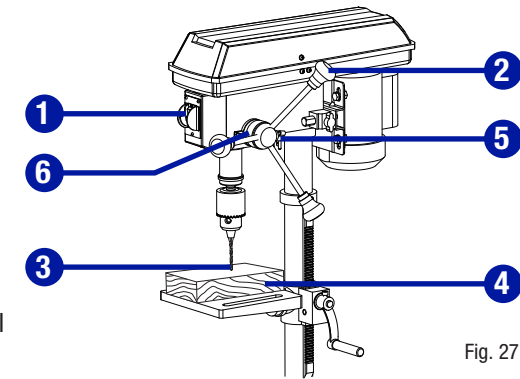

Fig. 27
**DEPTH SCALE METHOD (Fig. 27)**
- With the switch (1) Off, turn the feed handle (2) until the drill bit tip (3) slightly touches the top of the workpiece (4).
- Loosen the depth lock knob (5).
- Spin the depth scale hub (6) until the desired drilling depth is at the scale pointer.